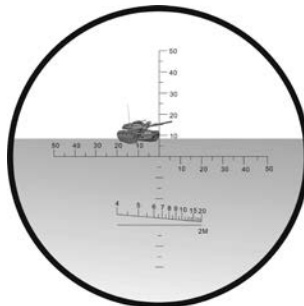

FIGURE 5. HORIZONTAL VIEW ANGLE MEASURING
A. When the Horizontal View Angle is smaller than the horizontal scale range (-50~+50 mils) inside the binoculars, aim one edge of the object at a horizontal scale line (the center or the outmost line are selected according to the image size of object usually) and read its value. Then read the value of the scale at which another edge was located. Add, these two values, the sum value is the measured Horizontal View Angle. As shown in Figure 5, the Horizontal View Angle of the target (tank) is 20-00 mils, and the Horizontal View Angle is 20 mils.